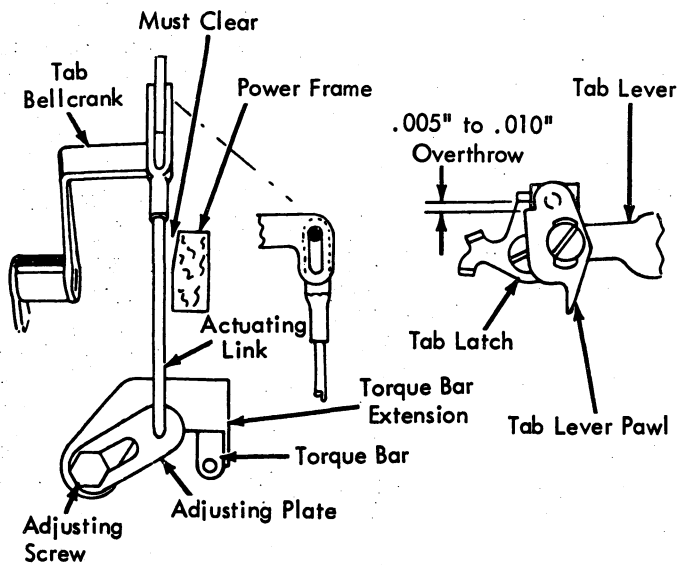

FIGURE 242.1. Adjusting Plate, 11 Inch Machine
5. **Adjusting Plate, 11 Inch Machine** (Fig. 242.1) - Position as follows: